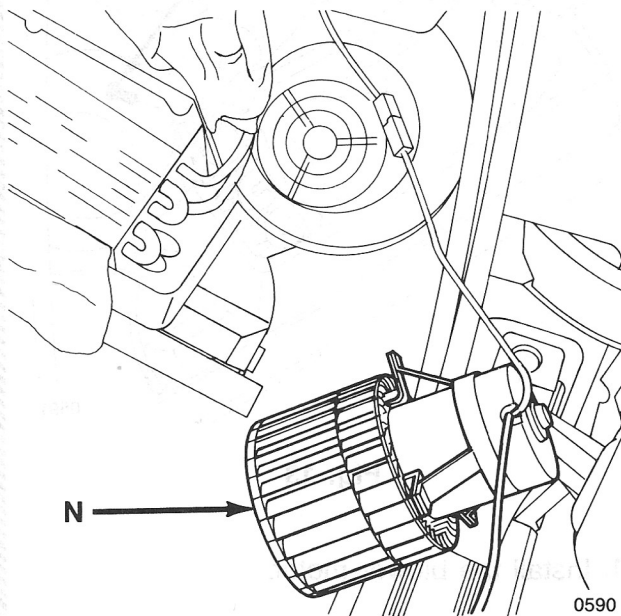

Fig. 12
10. Remove the blower motor (N) (Fig. 12). This will give access to the evaporator mounting screws.